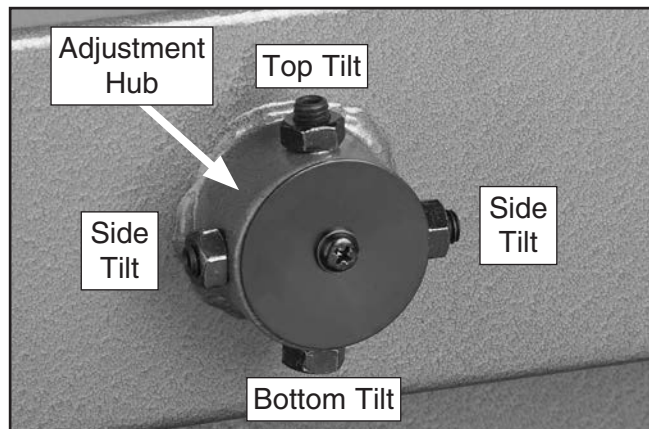

Figure 105. Lower wheel adjustment control.
- Loosen the jam nuts on the lower wheel adjustment hub (see **Figure 105**).